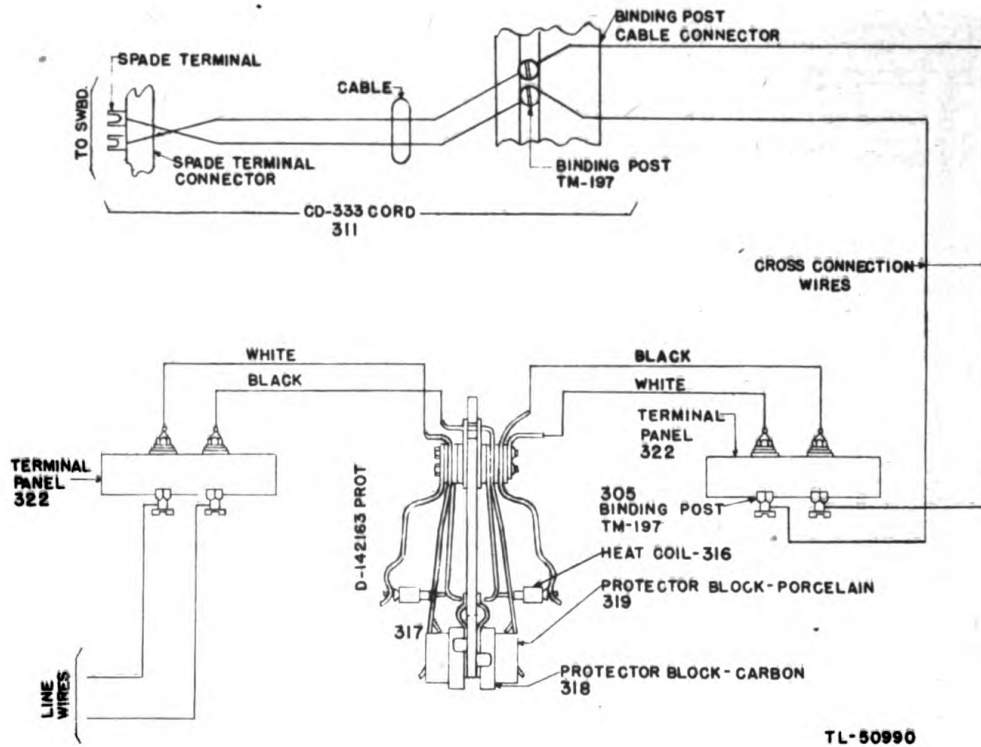

Figure 32. Frame FM-19, line circuit, wiring diagram.
15. LINE PROTECTION AND CROSS-CONNECTION CIRCUIT (fig. 32). Line wires connected to the binding post panel of Frame FM-19 are wired through carbon-block and heat-coil protectors to protect the switchboard circuits from excessive line voltages and currents.